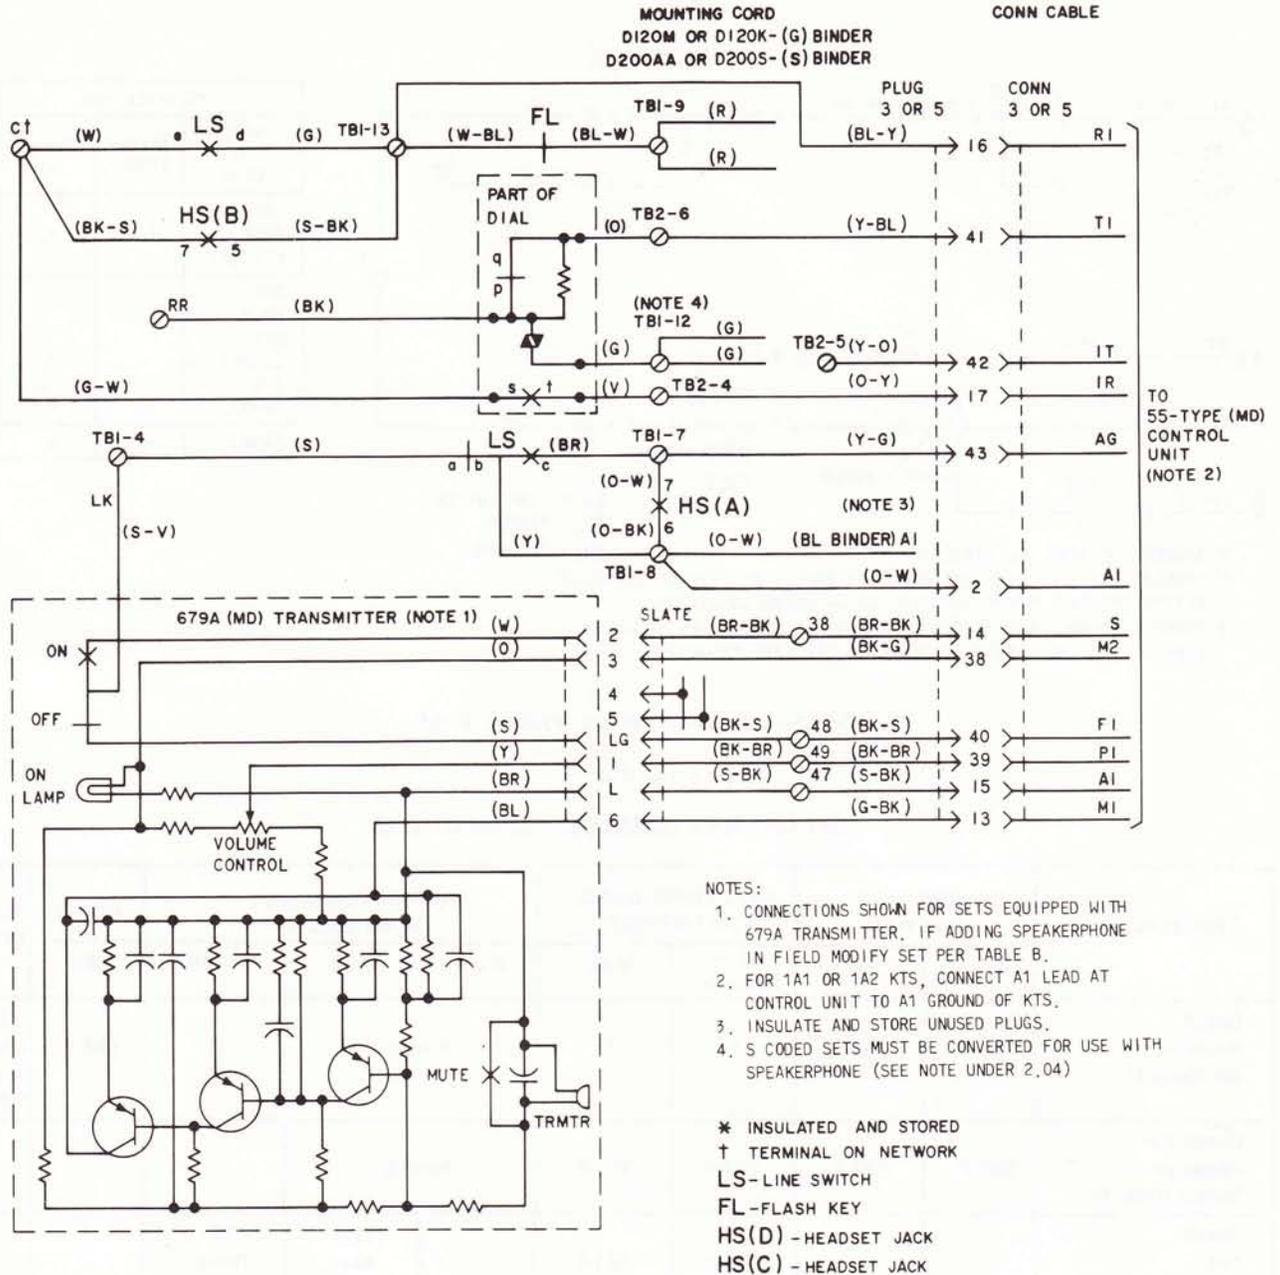

Fig. 5—Speakerphone Connections, Using Internal 679A (MD) Transmitter
**2.04** Sets may be equipped for internal speakerphone by the addition of a 679A (MD) transmitter in the 3rd (2682AA) or 5th (2683AA) module. Figure 5 and Table B show wiring of sets with speakerphone when transmitter is internal using a 55-type (MD) control unit.♦
**Note:** In addition to any normal conversion for speakerphone S coded sets must have the two (G) TIP leads on terminal (1) moved to terminal 12. On 3-type (MD) speakerphone applications *only*, the insulated and stored (BL-Y) lead must be connected to terminal 13 of terminal board.
1. THE 635AD5C KEY IS SUPPLIED WITH AN ADAPTER IN THE CUTOFF KEY POSITION. SLATE MOUNTING CORD PLUG IN (BL) BINDER CONNECTS TO THE ADAPTER. BALANCE OF PLUGS CONNECT DIRECTLY TO KEY. CONNECT (BL-Y) AND (Y-BL) ADAPTER LEADS TO TERMINAL 1 AND 2, RESPECTIVELY, ON S CODED TELEPHONES TERMINAL 4 IS USED FOR THE NEW LINE SWITCH. CONNECT THE (BL-Y) ADAPTER LEAD TO THE (BL-Y) MOUNTING CORD LEAD USING A SPARE TERMINAL OR A D161488 CONNECTOR.
2. IN SETS EQUIPPED WITH A 658A KEY, THE (G) CONTACT STRIP LEAD IS TERMINATED ON 17 AND (R) ON 18. IF A 658A KEY IS ADDED IN THE FIELD, LEADS MUST BE MOVED FROM PRECEDING MODULE CHAINING CIRCUIT TO TERMINALS 17 AND 18.
5. MODULE MAY ALSO BE EQUIPPED WITH A 679A (MD) TRANSMITTER FOR INTERNAL SPEAKERPHONE. SEE FIG. 5 AND TABLE B.
7. REFER TO FIG. 5 FOR CONNECTIONS WHEN ASSOCIATED WITH 679A (MD) TRANSMITTER.
11. THESE CONTACT STRIPS ARE REQUIRED WHEN TELEPHONE SET IS EQUIPPED WITH THE D120K (MD) OR D200S(MD) MOUNTING CORD. THESE CONTACT STRIPS SHOULD NOT BE USED WHEN TELEPHONE SET IS EQUIPPED WITH THE D120M OR D200AA MOUNTING CORD OR WHEN TELEPHONE SET IS EQUIPPED WITH A MODIFIED D120K OR D200S MOUNTING CORD.